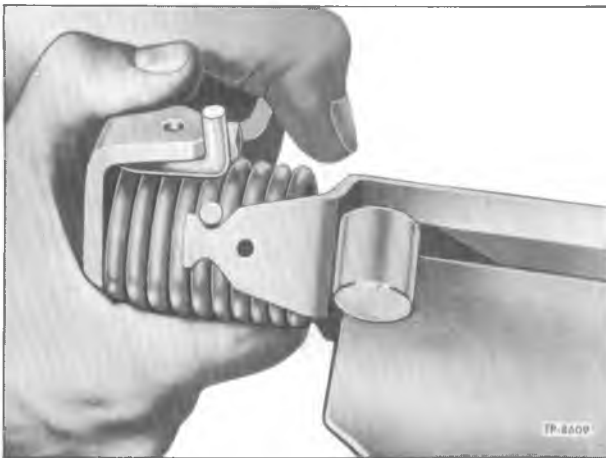

Figure 21—Assembling Torsion Spring and Levers (Eaton)
6. Install gasket (14) and cover (15) with three screws and lock washers (16). Tighten screws firmly.
7. If the assembly consisting of shift fork actuating lever (22), torsion spring (23), and spring winding lever (24) has been separated, reassemble. With shift fork actuating lever (22) in vise, assemble parts as shown in figure 21. Turn the spring